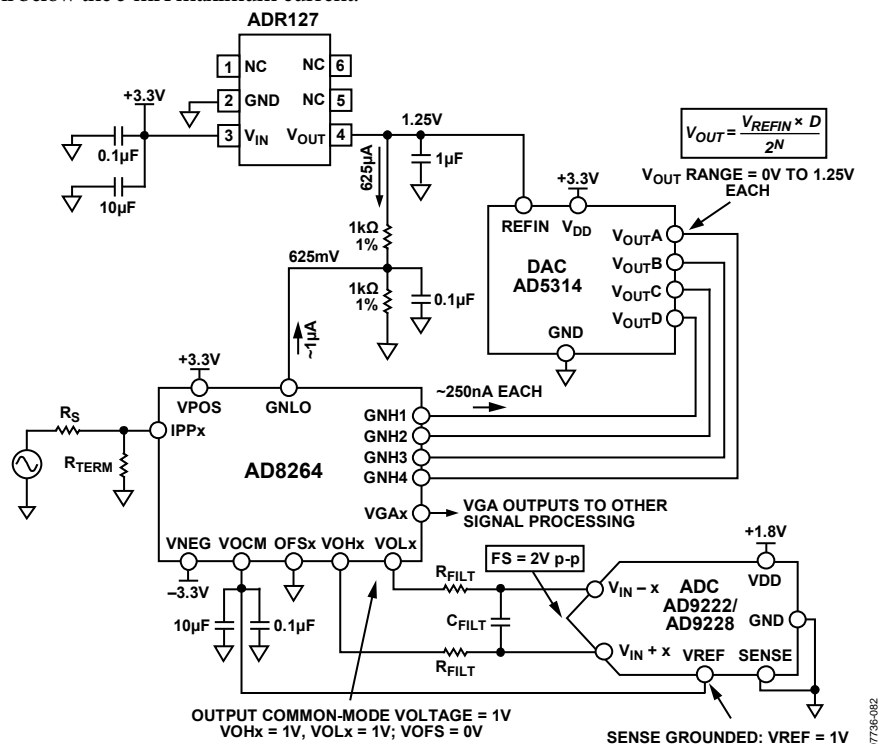
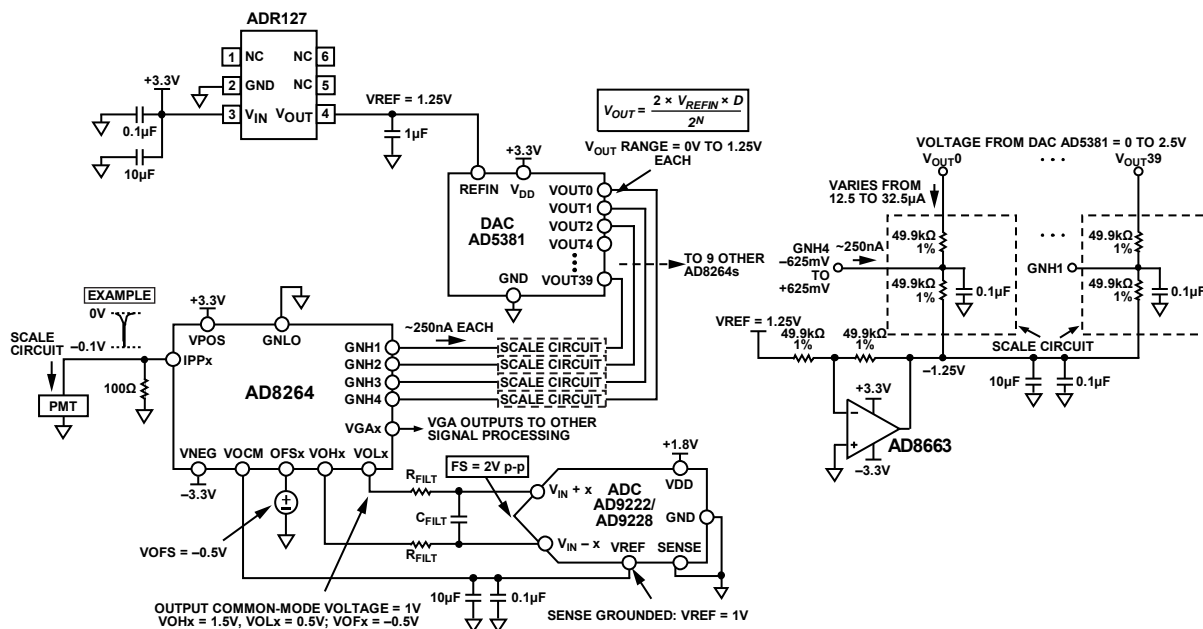

Figure 112. Application Concept of the AD8264 with the AD5314 10-Bit DAC and the AD9222/AD9228 12-Bit ADC
Figure 113. Concept Application of AD8264 with 40-Channel AD5381 12-Bit, 3 V DAC and AD9222/AD9228 12-Bit ADC
The AD8264 is particularly well suited for use in the analog front end of medical PET imaging systems. Figure 112 shows how to use the AD8264 with the AD5314 (a 4-channel, 10-bit DAC) and the AD9222/AD9228 (an octal or quad, 12-bit ADC, respectively). The DAC sets the gain of the AD8264. Note that the full gain span of 24 dB is achieved with this setup because the gain control input range of the AD8264 is very close to 1.25 V. The GNLO pin must offset by $1.25/2 = 625$ mV because the gain control input is bipolar around the voltage applied at GNLO. This is done with two 1 k Ω , 1% resistors. The approximately 1 μ A of bias current flowing from the GNLO pin does not contribute a significant error because the basic gain error of the AD8264 is the limiting factor.
Figure 112 also includes the DAC output equation, which indicates that the output can vary between 0 V and $V_{REF} = 1.25$ V.
The single-ended-to-differential amplifier of the AD8264 amplifies the VGA output signal by 6 dB and can provide the required dc bias of the AD9222/AD9228, as shown in Figure 112. The ADC is connected with the default internal reference because the SENSE pin is grounded. With this connection, the AD9222/AD9228 VREF pin is an output that provides 1 V; this is then connected to the VOCM input of the AD8264, which sets the output common-mode voltage of the VOHx and VOLx pins to 1 V. This voltage is very close to the recommended optimal value of $VDD/2 = 0.9$ V. With this configuration, the ADC inputs are set to a full-scale (FS) of 2 V p-p.
The dc connected concept example in Figure 113 is an application with the 40-channel AD5381, 3 V, 12-bit DAC. The main difference between this example and Figure 112 is that, for the same AD127 1.25 V reference, the full-scale output of the DAC is from 0 V to $2 \times V_{REFIN} = 2.5$ V. Two options for gain control include the following:
- Use the same circuit as in Figure 112 but use only half the DAC output voltage from 0 V to 1.25 V. This is the simplest solution, requiring the fewest extra components. Note that the overall gain resolution increases by one bit to 11 bits over the 10-bit AD5314.
- Ground GNLO and scale the DAC output so that the GNHx inputs vary from -0.652 V to $+0.625\text{ V}$. Figure 113 shows a possible circuit implementation using a divider between the DAC output and a -1.25 V reference.
Figure 113 shows how the AD8264 is connected in a PET application. The PMT generates a negative-going current pulse that results in a voltage pulse at the preamplifier input and a differential output pulse on VOLx and VOHx.
A convenient method of verifying and customizing the signal chains shown in Figure 112 and Figure 113 is by ordering the corresponding evaluation boards available on www.analog.com. The AD8264-EVALZ is a platform through which the user can quickly become familiar with the features and performance capabilities of the AD8264. See the Evaluation Board section for more information.